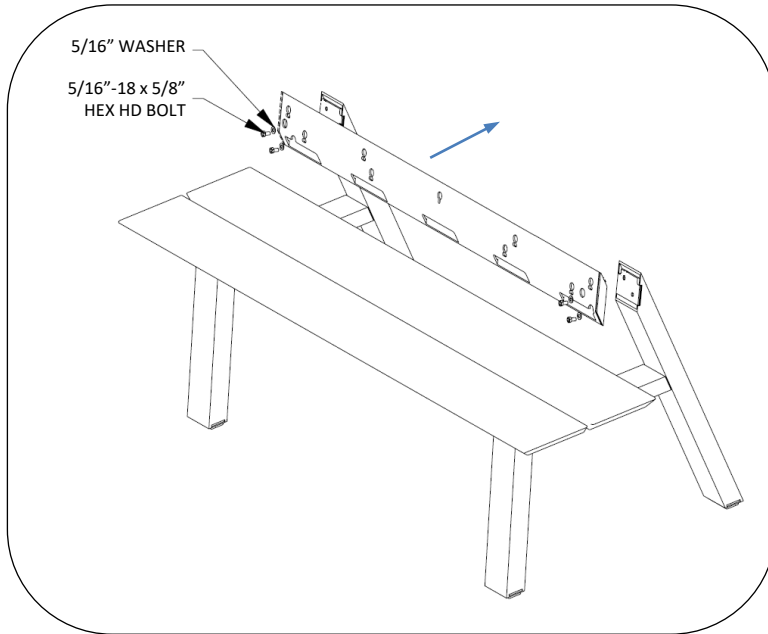
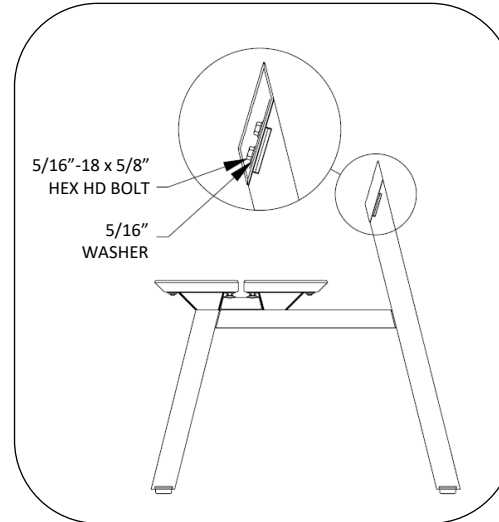

Fig. 3 – attach back brace to supports
Fig. 4 – detail of hardware for back brace
4. Turn bench upright. Attach back brace to supports using (2) 5/8-16 x 5/8" hex head bolts and washers per support, see Fig. 3 and Fig. 4. Slots on back brace should be facing down.